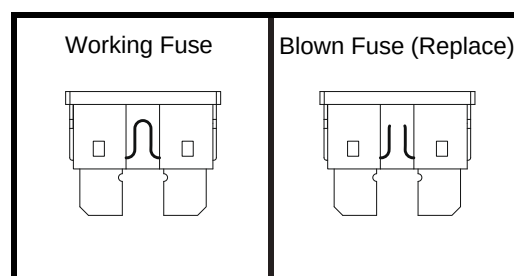

Figure 26. Fuse Replacement
2. Examine the fuse to be sure it is blown. **See figure 26.**